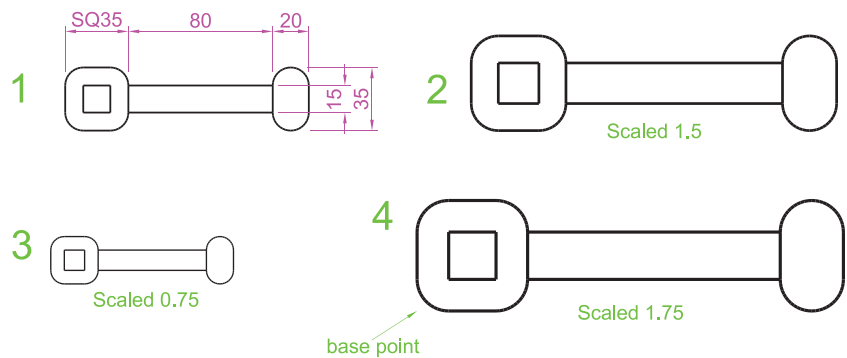

Fig. 5.29 Examples – Scale
Examples – Scale (Fig. 5.29)
- Using the **Rectangle** and Polyline tools, construct drawing **1** of Fig. 5.29. The **Rectangle** fillets are R10. The line width of all parts is **1**. Copy the drawing 3 times to give drawings **2**, **3** and **4**.
The results are shown in Fig. 5.29.